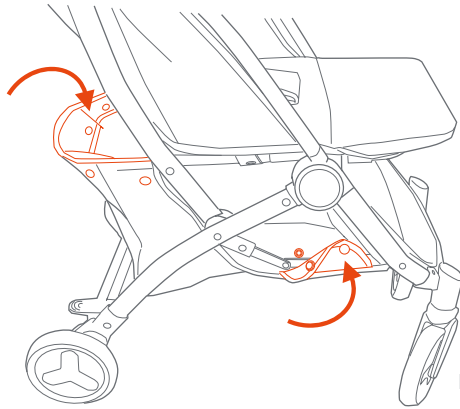

Fig. 5
- Check that all the secure snap buttons are closed on the rear section of the basket. The fabric panel wraps over the basket tubing and is secured by the 4 snap buttons (Fig. 5). Do not use the basket if all the buttons are not closed completely..